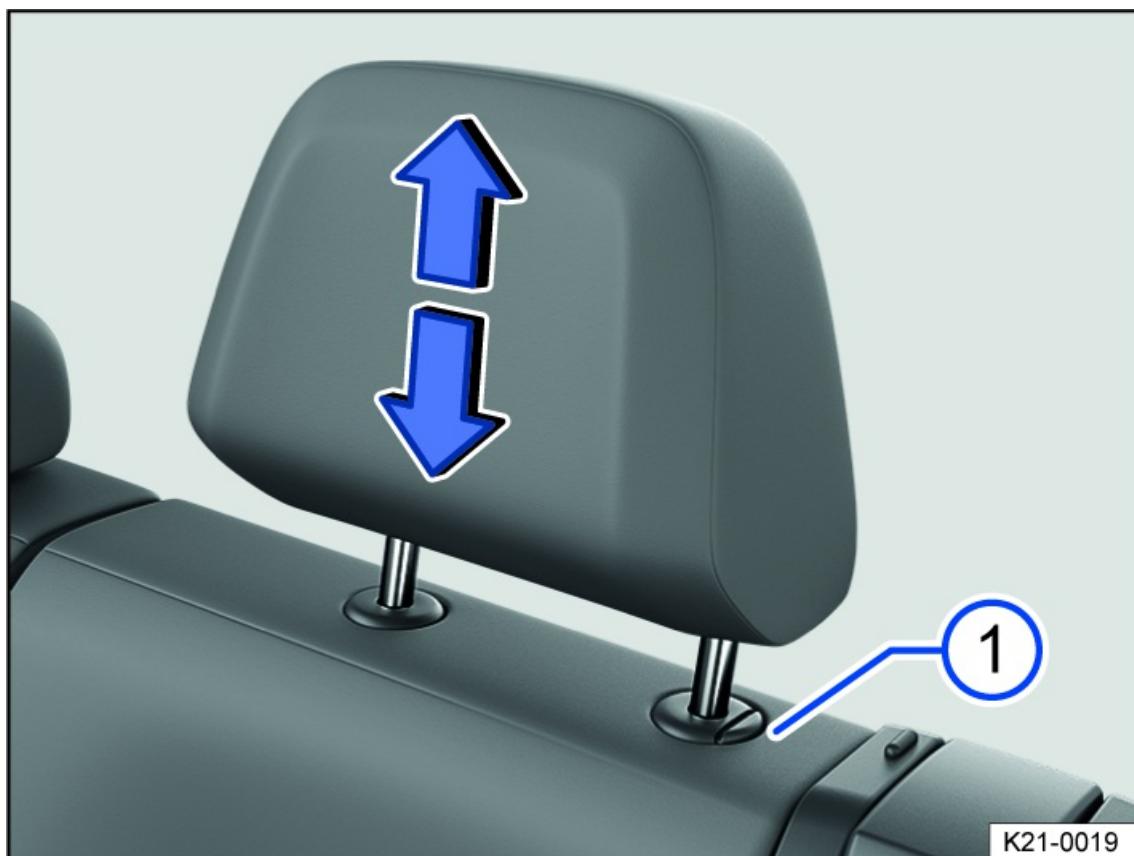

Fig. 72 Adjusting the middle rear head restraint (general example).
1. If necessary, slide the head restraint upward or downward in the direction of the arrow and when pressing the button. *fig. 72*